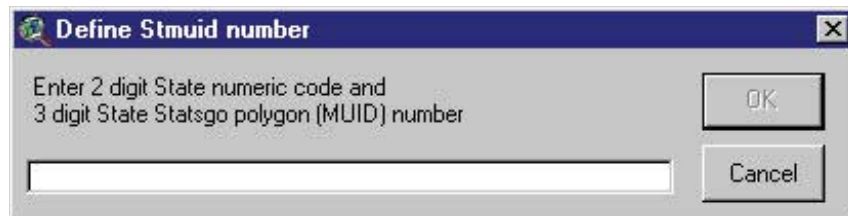

Figure 6.41
- ii. Double click the respective record. A dialog box will be displayed that allows the user to enter the State STATSGO polygon number (Figure 6.41).
- iii. When the **Stmuid** record is double-clicked, a dialog box (Figure 6.41) is displayed. Enter the State STATSGO polygon number and click **OK**. The Stmuid number is set in the selected record.